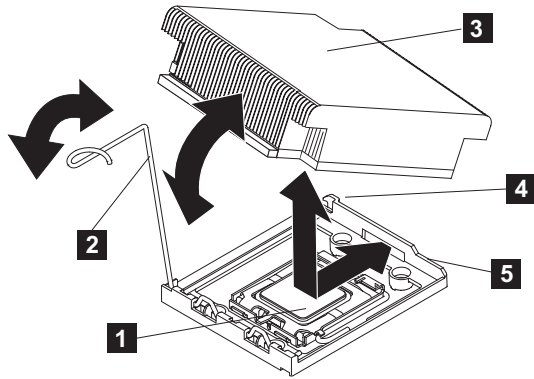

Figure 262. Installing the heat sink on the SAN Volume Controller 2145-CG8 or 2145-CF8 microprocessor
- Align the heat sink on top of the microprocessor, as shown in Figure 262.